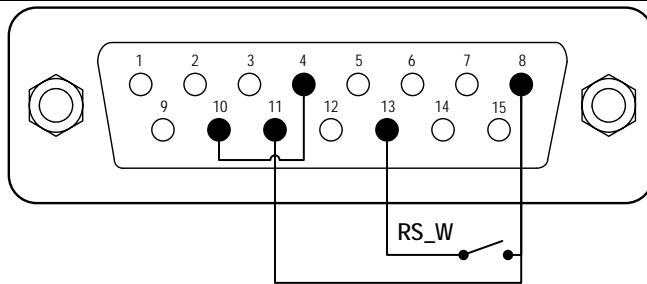
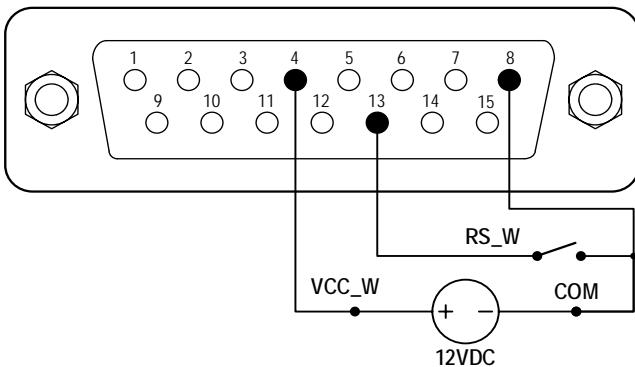

Figure 22. Footswitch with internal 12V Power Source
Figure 23. Footswitch with External 12V Power Source
- Switch the power of the pump off. Wire the DB15 connector as shown on *Figure 22* or *Figure 23*, and connect it to the DB15 port on the rear of the pump.